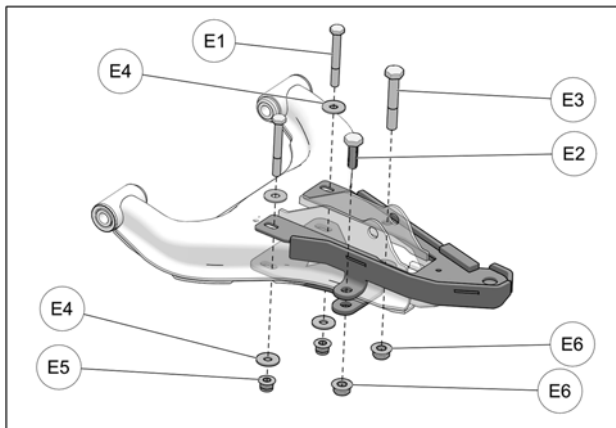

Fig. 20
8. Assemble stiffener and bottom plate with M10 bolts (E3-E2) and nuts (E6); M8 bolts (E1), washers (E4), and nuts (E5) as shown in Fig. 19. Hand-tighten these nuts and bolts temporarily. See Fig. 20.